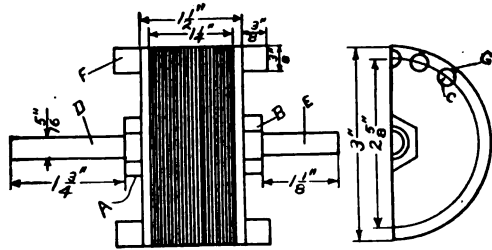

Fig. 6. Rotor Core on Shaft
For the rotor core, cut enough disks $3\frac{1}{2}$ inches in diameter to make a stack $1\frac{1}{4}$ inches thick. Cut two $3\frac{1}{2}$ inch disks from some $\frac{1}{8}$ inch copper and clamp the rotor disks down on the drill press between them. Drill a $\frac{1}{2}$ inch hole through the center of the stack, and clamp the rotor on the shaft very tightly between the two nuts (A) and (B), Fig. 6. Mount the shaft between the lathe centers again and inscribe a $2\frac{5}{8}$ inch circle on the copper disc. This circle should be divided into seventeen equal parts each of which locates a slot for the rotor bars. Center punch these points and drill seventeen $\frac{1}{4}$ inch holes through the core and copper disks. Fig. 6 dimensions the finished core. In the core as it is now, the holes are not so close to the periphery; there is still a little material around it to be turned off. This could be turned off now, but it is best to turn it off after the bars have been secured in the rotor,
For the bars (C), Fig. 6, cut seventeen pieces of No. 3 copper wire, each $1\frac{3}{4}$ inches long. It is not necessary to insulate the rotor bars, but it is preferable to do so as this gives direction to the currents in the rotor. The insulation of the bars consists of a piece of tough bond paper wrapped around them and secured with shellac. The insulation covers only the center portion of the bar over a distance of about $1\frac{1}{4}$ inches. The ends should be scraped clean so as to make good contact with the copper disks to which they are soldered. Put the bars in the holes in the rotor and with a light hammer rivet the ends tight in the copper disks. The bars should then be soldered to the copper disks with a blunt soldering iron, holding it over the end long enough to heat it and cause the solder to flow freely and make a good electrical connection between the bars and the disks.
The ends of the shaft (D) and (E), Fig. 6, should be turned down to $\frac{3}{8}$ inch in diameter. Two fans (F) are added to each end of the rotor core by soldering them to the end rings. These fans cause a circulation of air in the machine which helps keep down the operating temperature. The slots which contain the rotor bars should be opened by a hack saw cut (G). When the rotor is completed, it should be carefully balanced.